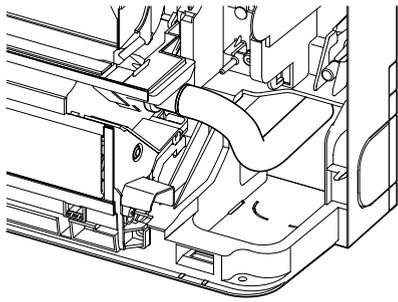

Fig. 5-4
- Insert the drain hose all the way to the base of the drain pan. (Fig. 5-4)